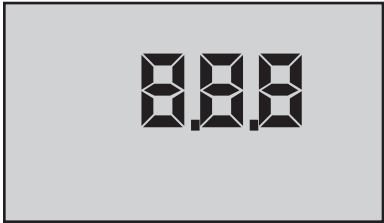

Figure 35
- 2. Press  key until three numbers are displayed as shown in Figure 35.